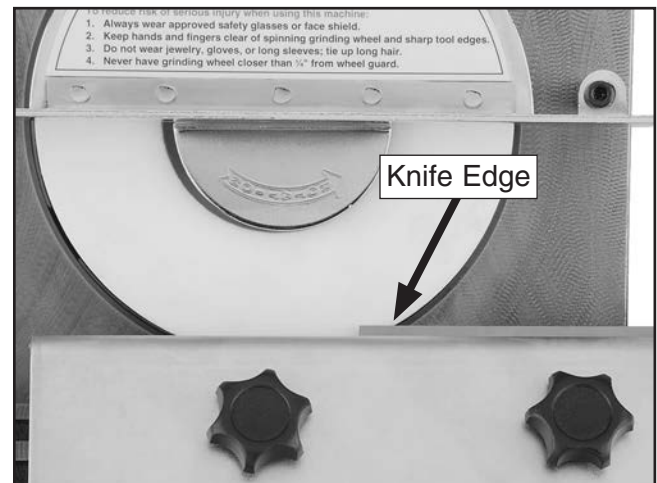

Figure 23. Knife positioned over the right side of the wheel (guard not shown for clarity).
12. Once you are satisfied with the position of the knife relative to the wheel, raise the grinder table until the wheel is below the table surface, then move the slide bar so that the end of the knife is over the right hand side of the wheel, as shown in **Figure 23**.